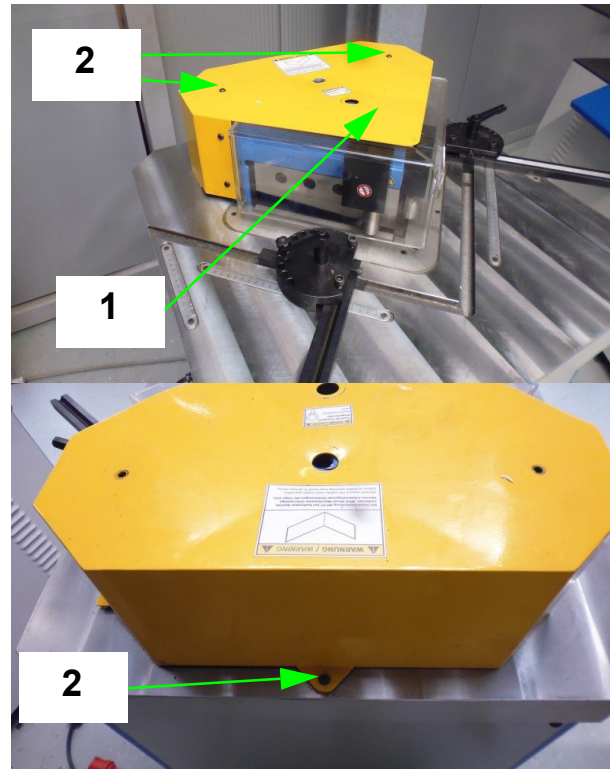

Fig. 15: Disassembling of the protective cover
- Step 2: For removing the protective cover 1, you must first unscrew the three screws 2 (Fig.15).
Step 15: If there are no further activities in the area of the knives, replace the protective cover 1 (Fig.15) and screw it tight.